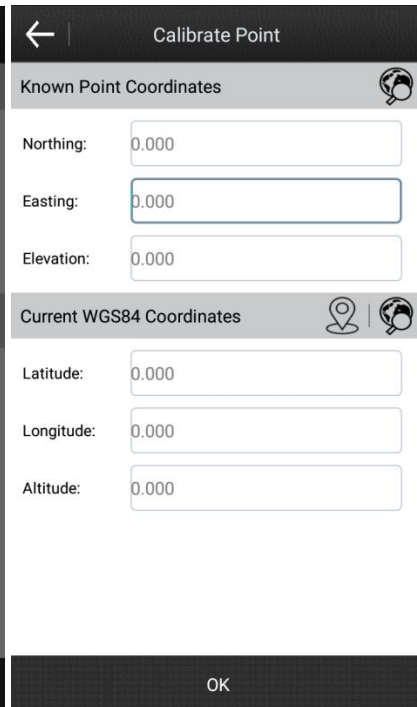

Figure7-11
1. Click “marker point calibration” to enter the calibration point interface shown as Figure 7-11. Then input the known point coordinates, and click to get the current WGS84 coordinates.